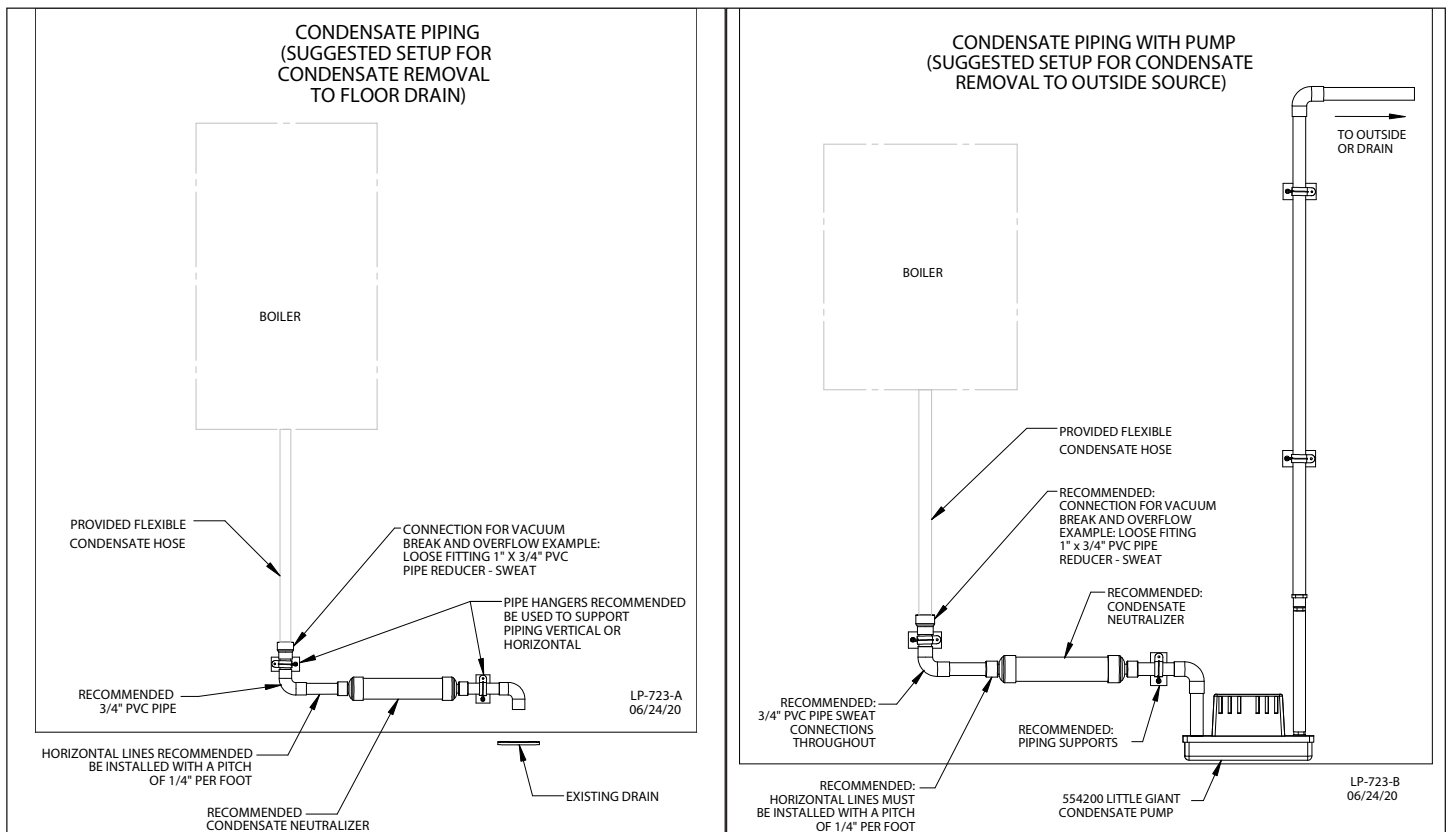

Figure 45 - Condensate Piping Suggestions
8. Local building codes may require an in-line neutralizer to be installed (not included) to treat the condensate. See Figure 45. If required by local authorities, a condensate filter of lime crystals, marble, or phosphate chips will neutralize slightly acidic condensate. Follow all the installation instructions included with the neutralizer. If a neutralizer is installed, periodic replacement of the limestone (or neutralizing agent) will be required. The rate of depletion of the limestone varies with usage of the boiler. During the first year of boiler operation, check the neutralizer every few months for depletion.